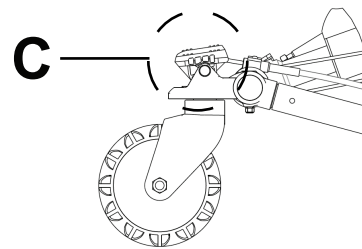

Figure 15 – Wheel lock and Steer-Lock off
To release a wheel lock or **Steer-Lock** (C), press down on the top of the pedal with your foot or lift up on the pedal with your toe (Figure 15). The top of the pedal will rest against the caster frame when you release the wheel lock or **Steer-Lock**.